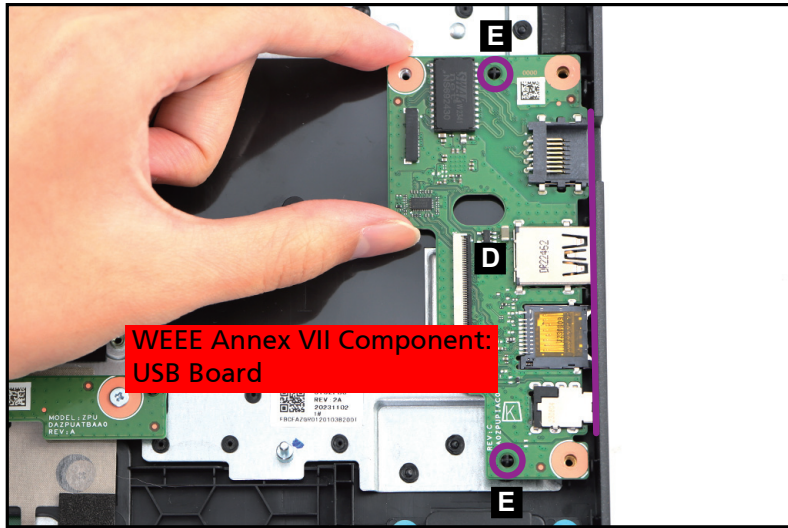

Figure 1-42. USB Board Removal
5. Release the USB board (D) from the I/O port slots and guide pins (E) on the top assembly (Figure 1-42). Then remove the USB board.